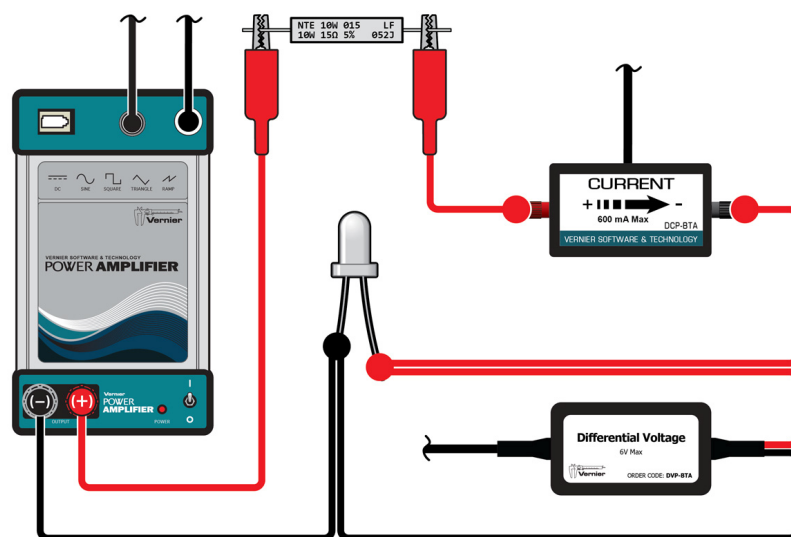

Figure 2
2. Connect the current probe in series in your circuit between the resistor and the red LED. Connect the leads of the voltage probe to the clip ends of the wire leads attached to the LED (see Figure 2).